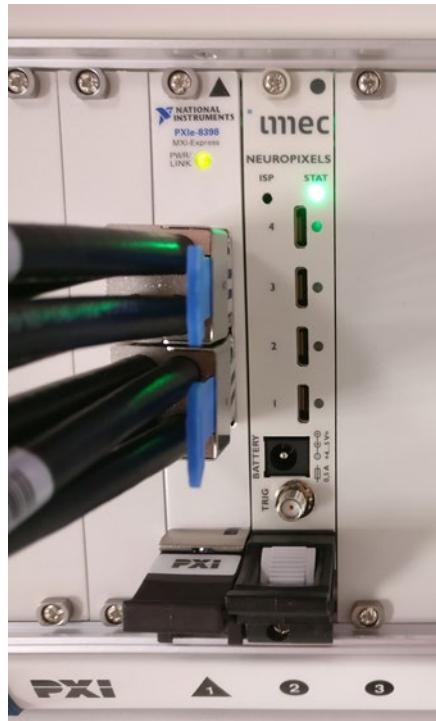

Figure 23: Global status LED of the PXIe acquisition module switching from red to green after correct installation.
17. Power on **first** the PXIe chassis and **then** the host computer (in this sequence). The global status LED on your PXIe acquisition module should switch from red to green as shown in Figure 23. The 'LINK' status LED of the remote controller will also turn green.